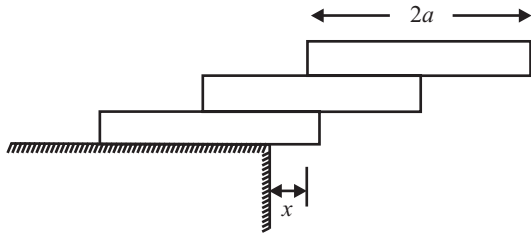

Fig. 7.21
Q. 20: Three similar uniform slabs each of length '2a' are resting on the edge of the table as shown in fig. 7.21. If each slab is overhung by maximum possible amount, find amount by which the bottom slab is overhanging. (Dec-00-01)